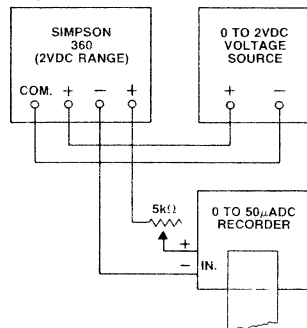

Figure 4-1. Connections For Use of The Model 603 or 2750 Recorder With The Simpson 360-2
- Connect the Simpson 360-2 to the Model 2750 or Model 603 recorder, and a 0 to 2 VDC voltage source as shown in Figure 4-1.